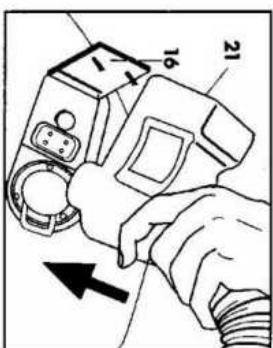

Fig. 10
Close the accessories socket door (16) against the body of the quick connection and ensure that the two parts latch onto each other. (Fig. 10)